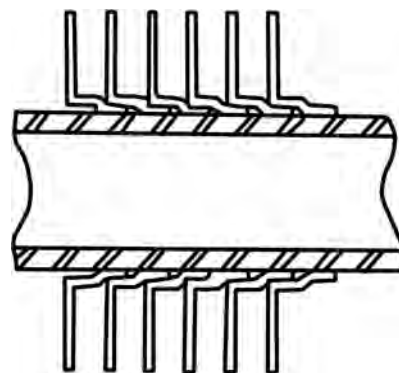

FIGURE 13.4 Double L-footed fin.
- *Double L-Footed Fins (Figure 13.4):* This fin is similar to L-footed fin in that it is produced in much the same manner. In this process, a foot is formed on both sides of the upright portion of the fin, providing an overlapping of the fin. This provides a higher protection for the tube against atmospheric corrosion. This fin type is also referred to as an *overlapped* fin.